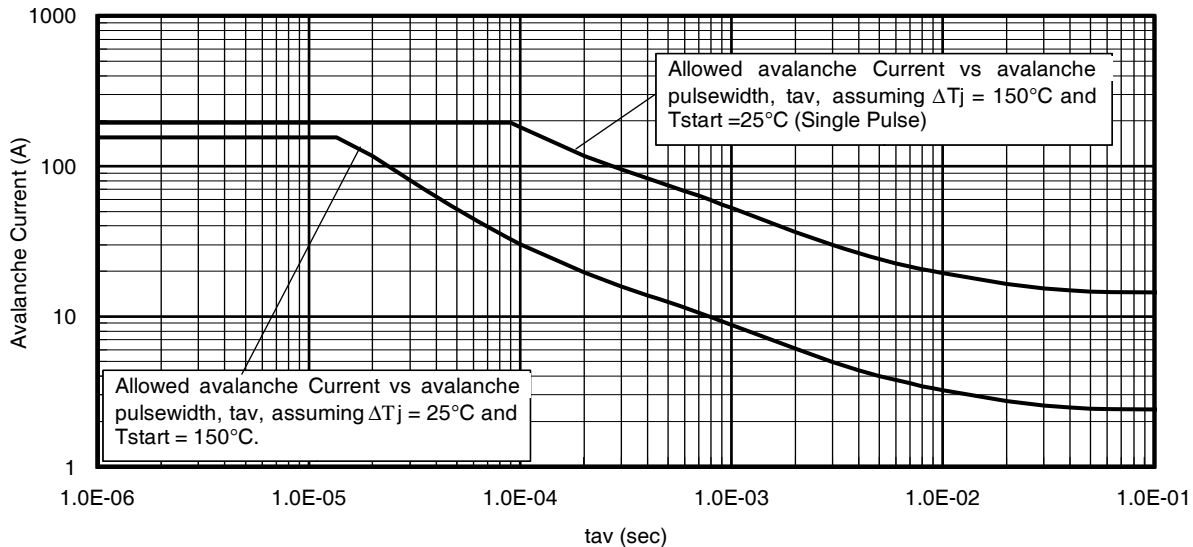

Fig 15. Avalanche Current vs. Pulsewidth
Notes on Repetitive Avalanche Curves , Figures 15, 16:
7. ΔT = Allowable rise in junction temperature, not to exceed T_{jmax} (assumed as 25°C in Figure 15, 16).